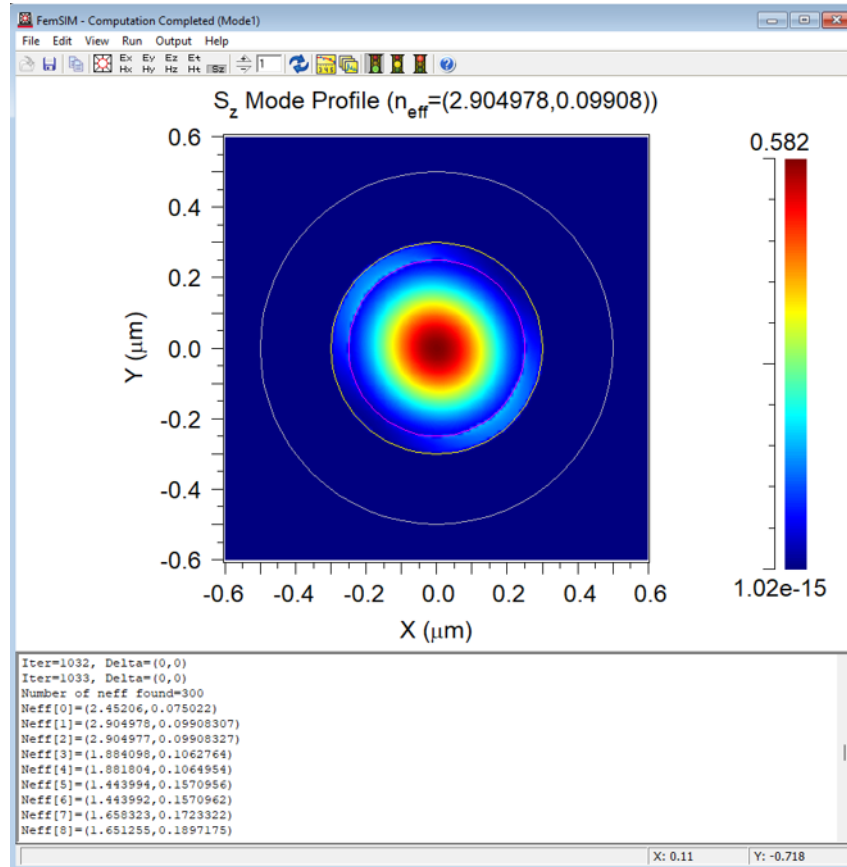

Figure 3. FemSIM simulation window after simulation is completed
Additionally, note that the H-field formulation in Advanced... setting dialog was picked for this simulation due to the discontinuity of the E field at the metal interface. At the end of the simulation, FemSIM will output all six field components (E, H) of the computed modes as well as the Poynting vector in the Z direction (S). Figure 3 shows S for one of the calculated modes.
Figure 3 shows S_z for one of the calculated modes.
Figure 3. Five lowest order mode patterns ($|E|$, $|H|$, and S) are plotted correspondingly. Power nodes at the waveguide center are observed in TM, HE, and TE modes.